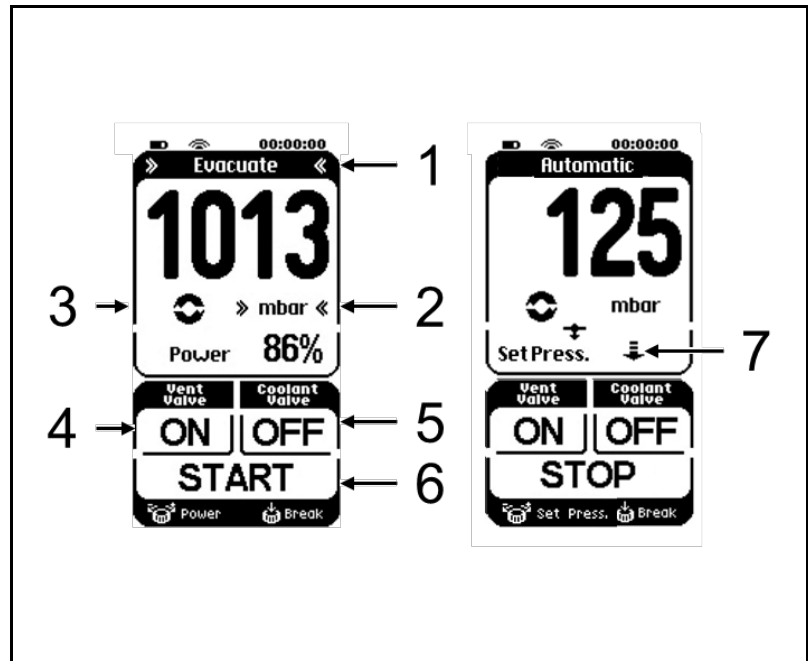

Fig. 11: Menus and buttons on touchscreen
- Menus for selecting the operating mode and units for pressure display (Fig. 11, page 29);
- Operating keys (Fig. 11, page 29) with the functions:
i If you press the arrow key (see Fig. 11/7) during automatic pressure reduction, the current pressure is applied as the new setpoint pressure and the vacuum pump system regulates to this pressure. The current setpoint pressure is shown in the display in place of the arrow.